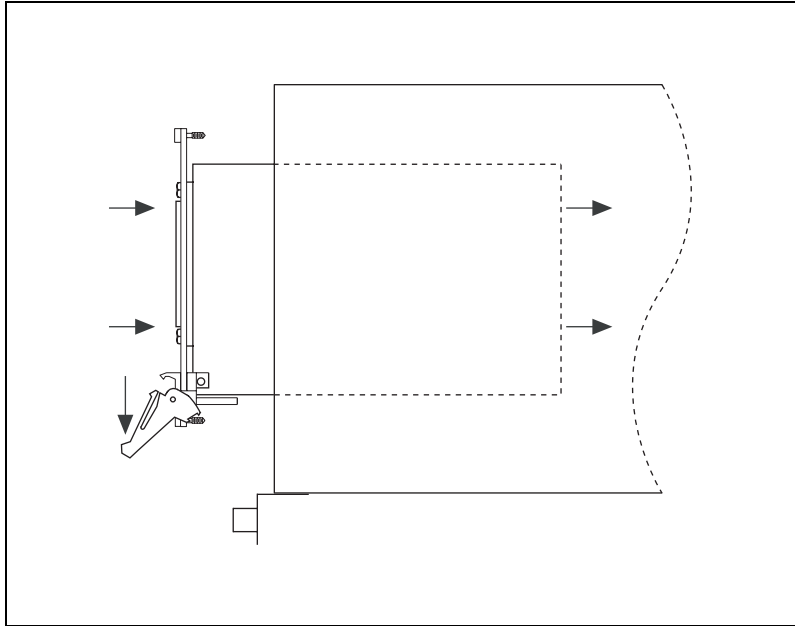
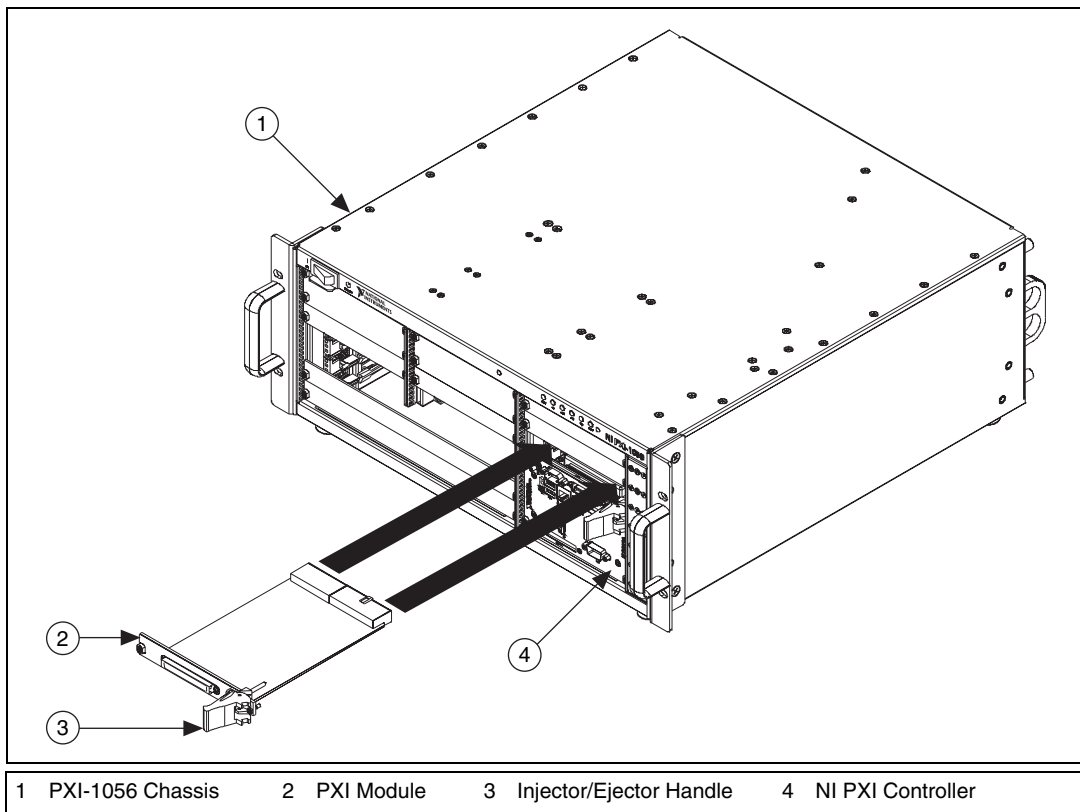

Figure 2-2. Injector/Ejector Handle Position during Controller or Peripheral Module Insertion
Figure 2-4. Installing PXI or CompactPCI Modules
2. Install the controller into the system controller slot (slot 1, indicated by the red card guides) by first placing the controller edges into the front controller guides (right and left). Slide the controller to the rear of the chassis (making sure that the injector/ejector handle is pushed down as shown in Figure 2-2).
2. Install a module into a chassis slot by first placing the module card edges into the front module guides (left and right), as shown in Figure 2-4. Slide the module to the rear of the chassis, making sure that the injector/ejector handle is pushed down as shown in Figure 2-2.